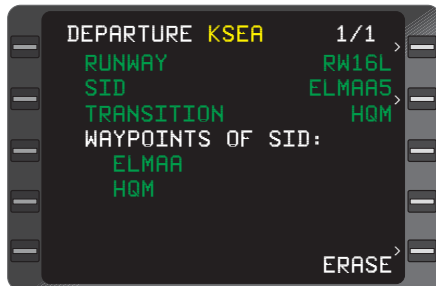

Figure 3-27
2. **ENT** Key - DEPRESS to review **SID** (Figure 3-27).